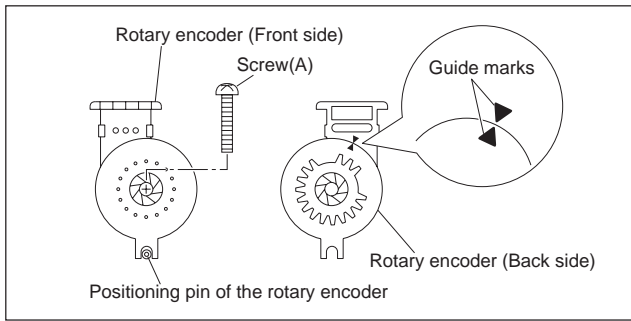
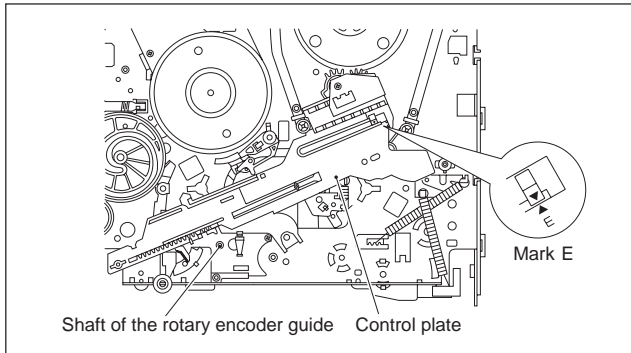

Fig.3-2-10a
Fig.3-2-10b
- (1) Remove the screw (A) and remove the rotary encoder by pulling it up. (See Fig. 3-2-10a.)
- (1) Make sure that the mark E of the control plate is in alignment with the mark ▼ of the loading arm gear shaft and bring the guide marks on the rotary encoder into alignment as indicated in Fig.3-2-10a. (See Fig. 3-2-10a and Fig. 3-2-10b.)
- (2) Turn over the rotary encoder with its guide marks kept in alignment and install it by fitting on the shaft of the rotary encoder guide and the positioning pin.
- (3) Tighten the screw (A) to complete the installation.